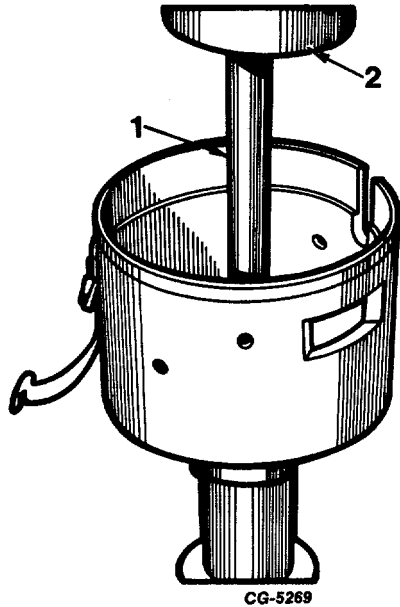

Fig. 28 Pressing Out Lower Bushing Using Knock-Out Bar
- Place distributor housing on press bed. Insert knock-out bar through upper bushing bore and allow to rest on end of bushing remover installed in lower bushing. Pressing against knock-out bar, press lower bushing from distributor housing (Figure 28)